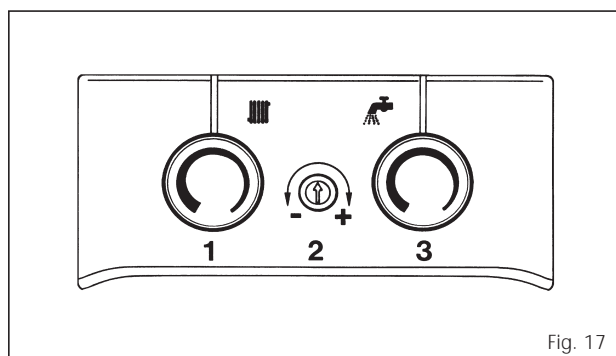

Fig. 17
Check the pilot flame fully envelops 5 - 8 mm of the thermocouple tip. If necessary adjust using regulating screw on gas valve (6 fig. 16/a). Turn the D.H.W. temperature adjuster fully clockwise to maximum (3 fig. 17). Fully open any D.H.W. tap and the burner will light.
- Ensure that the Summer/Winter switch on the facia panel (2 fig. 24/b) is set to the SUMMER position "☀" (D.H.W. Only), turn the D.H.W. thermostat (3 fig. 17) to maximum (fully clockwise), and turn on the electrical supply. Fully open any D.H.W. tap and the burner will light.
- Turn the Summer/Winter switch (2 fig. 24) to the WINTER position "❄" and turn the time clock override switch (1 fig. 24) to the override position "●". Ensure that the room thermostat (if fitted) is calling for heat. Turn the C.H. thermostat knob (1 fig. 17) to maximum (fully clockwise) and the burner will light.
- remove the black plastic cover protecting the potentiometer (2 fig. 17);
- set the burner pressure as required using a small screwdriver on potentiometer (2 fig. 17). Rotate the screw anti-clockwise to reduce the burner pressure;
- select Summer position "☀" and turn the D.H.W. thermostat (3 fig. 17) to max. ;